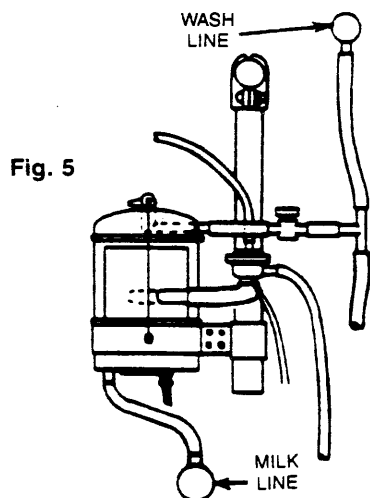

Fig. 5
2. Mounting of the Flo-Meter must be above the milk line. By using the tee clamps and support posts, mount the Flo-Meter in a level position as shown in Fig. 5.